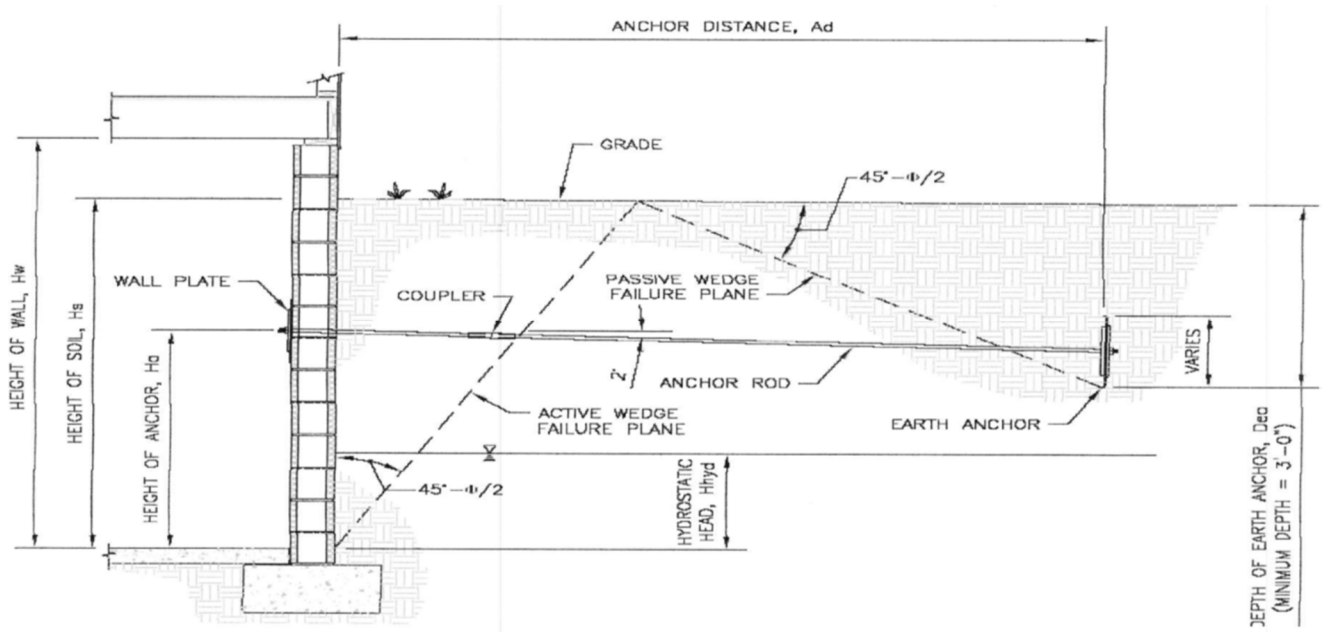

FIGURE 2—TYPICAL WALL ANCHOR ASSEMBLY
**4.2 Installation:** Grip-Tite® Wall Anchor System is installed by inserting a steel rod through the wall into the outside earth. A soil anchor is then attached to the steel rod through a vertical hole in the ground. An interior wall plate then secures the rod inside the foundation wall, as illustrated in Figure 2. Table 4 lists specific wall heights and soil variability references and can be used together with the soil test report to determine important installation information such as wall plate/anchor rod height, allowable anchor spacing, distance and depth, and allowable lateral bearing capacity.